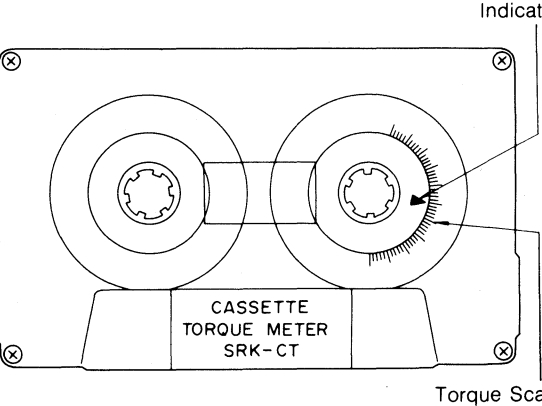

FIG. 13
- 4. Read "►" mark of indicator on take-up side, as shown in Fig. 13.